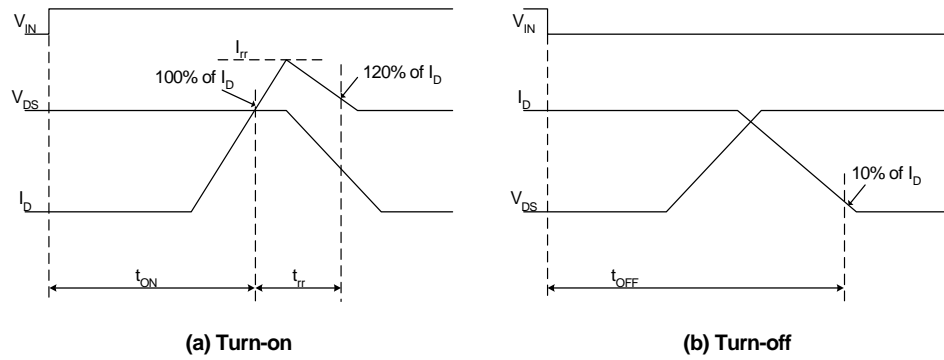
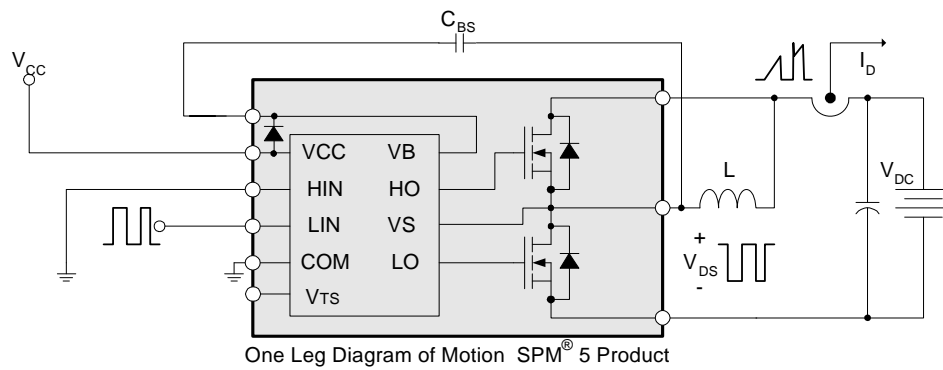

Figure 6. Switching Time Definitions
Figure 7. Switching and RBSOA (Single-pulse) Test Circuit (Low-side)
2. tON and tOFF include the propagation delay of the internal drive IC. Listed values are measured at the laboratory test condition, and they can be different according to the field applications due to the effect of different printed circuit boards and wirings. Please see Figure 6 for the switching time definition with the switching test circuit of Figure 7.
3. The peak current and voltage of each MOSFET during the switching operation should be included in the Safe Operating Area (SOA). Please see Figure 7 for the RBSOA test circuit that is same as the switching test circuit.